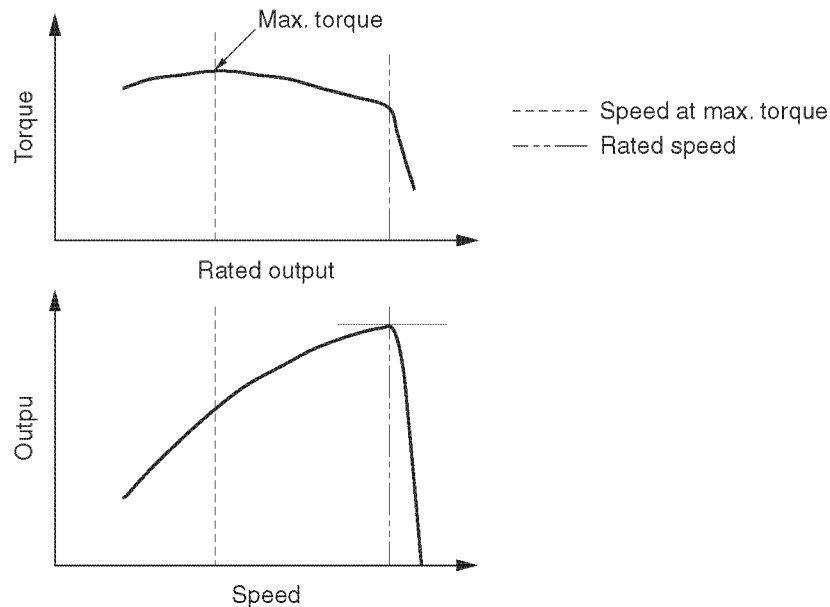
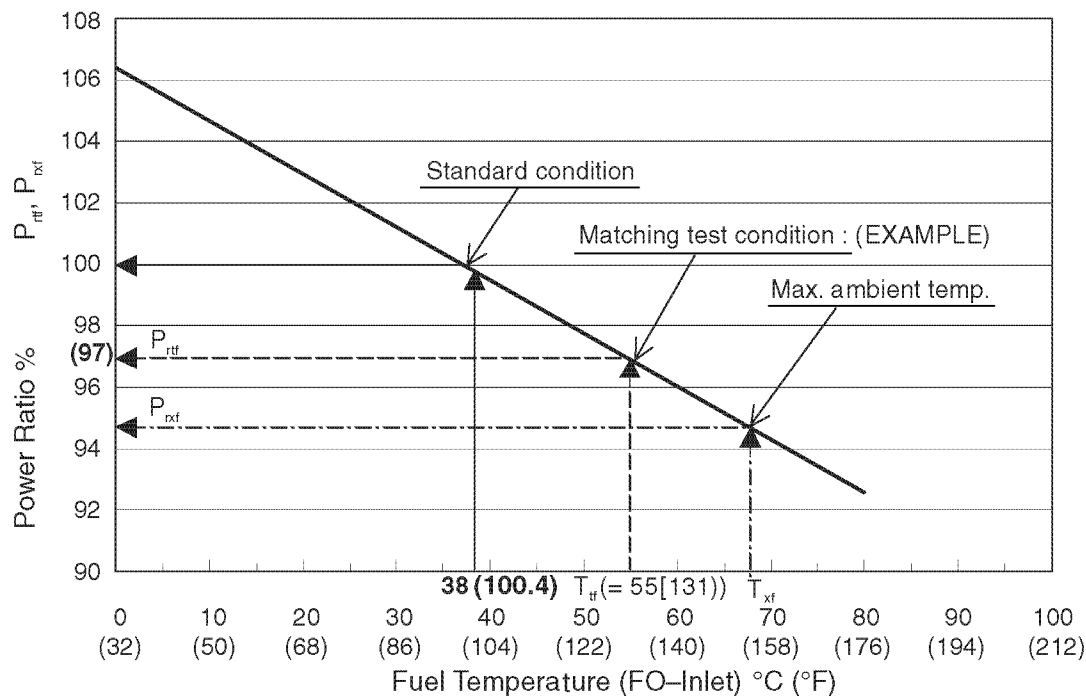
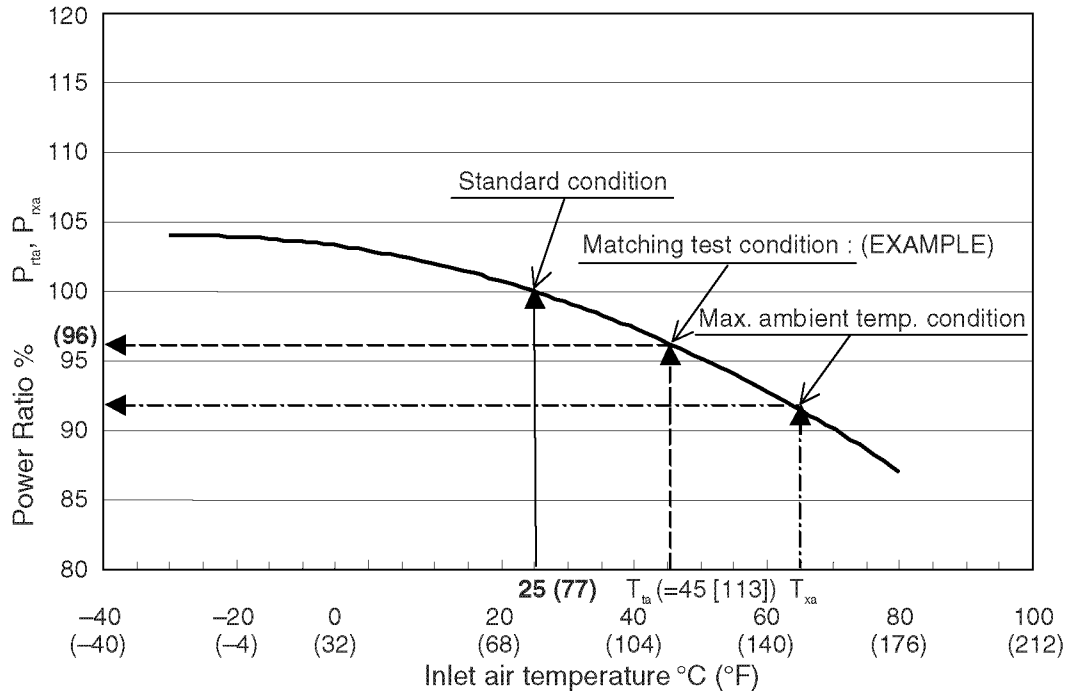

Figure 12-12
Figure 12-13
Figure 12-14
Engine output and torque are guaranteed under the conditions shown in the previous section. Performance is significantly affected, however, by how the engine is installed and the ambient conditions. Performance is also significantly affected by the diesel fuel and intake air temperatures. **Figure 12-12** and **Figure 12-13** show the effect of temperature. Perform the output matching test in the development stage to verify that the machine functions as specified even though temperature changes occur.
- Find the output ratio from the fuel temperature and (**Figure 12-12**). For example, when the fuel temperature T_{ff} is 55°C (131°F), the output ratio P_{rf} is 97% (0.97).
- Find the output ratio from the intake air temperature and (**Figure 12-13**). For example, when the intake air temperature T_{ta} is 45°C (113°F), the output ratio P_{rta} is 96% (0.96).
- The plot data provided under standard conditions for the sample machine (solid line) are multiplied by the above total output ratio P_{rt} over the whole plot area (**Figure 12-14**).
- The result is the performance curve indicated by the dotted line in (**Figure 12-14**). This curve represents the engine performance under the ambient conditions of the matching test.
- Plot these T_{xf} and T_{xa} on **(Figure 12-13)** and **(Figure 12-14)**, respectively.
The allowable limit of fuel temperature is 80°C (176°F). When it is estimated that the fuel temperature T_{xf} in *Evaluation of Output Matching for General Purpose Industrial Machines on page 12-21* exceeds 80°C (176°F), consider taking the sixth action described in *Test Data Interpretation and Criteria on page 12-15*. However, if the engine output is set at 38°C (100.4°F), power correction according to **(Figure 12-12)** should be necessary.